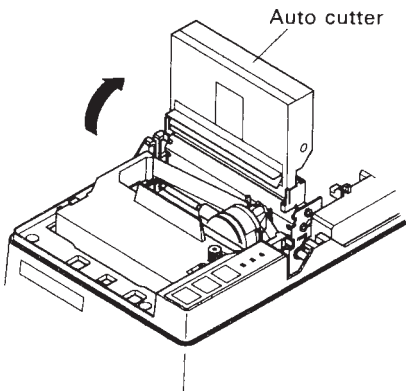

Fig. 2-9 Raise the auto cutter (SP342)
- ⑥ Lift up the auto cutter and put it in a vertical position, as shown in Fig. 2-9.